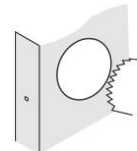

Figure 3a
- Drill 2-1/8" (54mm) hole through door panel as marked for the deadbolt (Figure 3a).